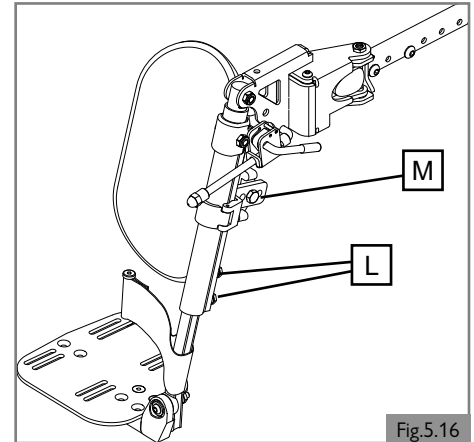

Fig.5.16
5.11 Elevating legrest adjustment (Option) (Fig 5.16)